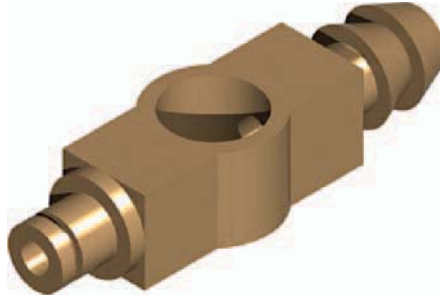

Fig. 18.18 Second example – 3D models
Second example (Fig. 18.18)
5. **Isometric.** Render (Fig. 18.18).